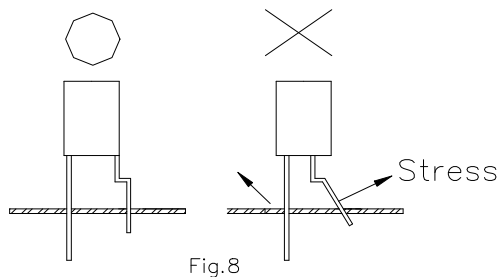

Fig.8
- Form the lead to ensure alignment between the leads and the hole on board, so that stress against the LED is prevented. (Fig.8)